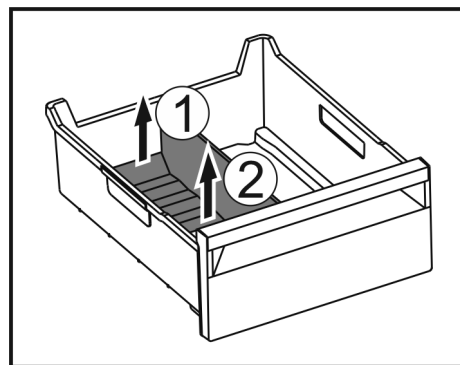

Fig. 184
- ▶ Lift the rear part of the ice compartment divider. Fig. 184 (1)
- ▶ Remove the ice compartment divider upwards. Fig. 184 (2)